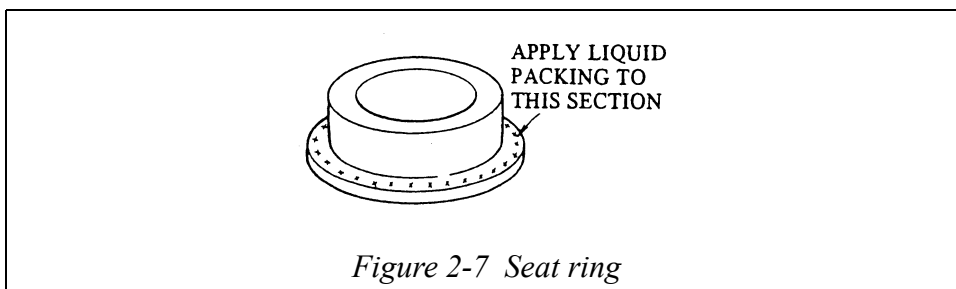

Figure 2-7 Seat ring
- (5) While holding the valve plug open, install the seat ring and clamp it with the seat retainer to a finger-tight force.
*~Note Apply liquid packing to the seat ring. (See Figure 2-7).